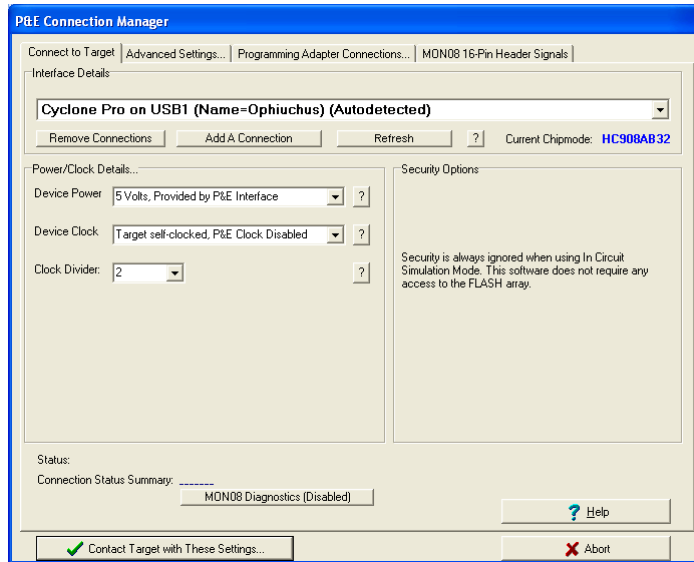

Figure 8-11: P&E Multilink/Cyclone Pro Connection Manager
4. Click on “Refresh” which should display all P&E devices that are automatically detected, such as Cyclone Pro USB, Cyclone Pro Ethernet and USB-ML-MON08 Multilink. See **Figure 8-11**.